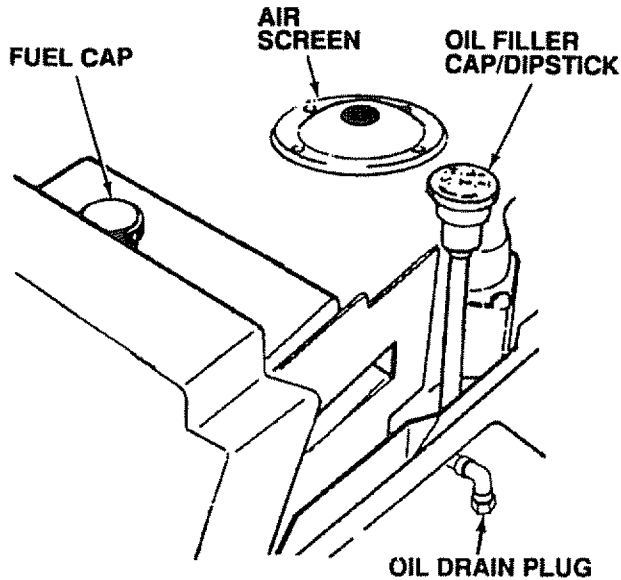

FIGURE 15
- Add oil through the oil filler cap/dipstick (Fig. 15).
Several minutes after stopping engine, check engine oil level with tractor on level ground. Wipe dipstick (Fig. 15) clean, screw it down tight for a few seconds, remove and read oil level. If necessary, add oil until "FULL" mark is reached. (See chart above). **NOTE:** DO NOT OVERFILL.